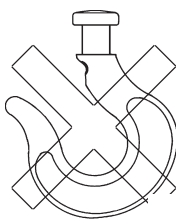

Fig. 8
- **Do not** remove the safety latch from the load hook (Fig. 8).